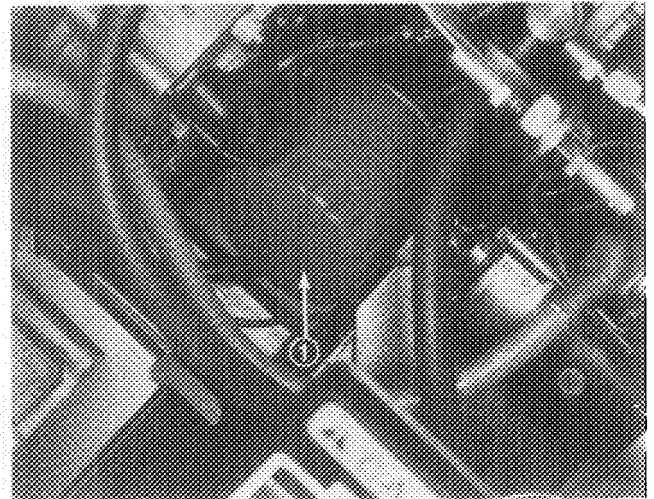

Figure 36
2. Remove oil filter (Fig. 36). Apply a light coat of clean oil to the new filter seal before screwing it on. DO NOT OVER-TIGHTEN.